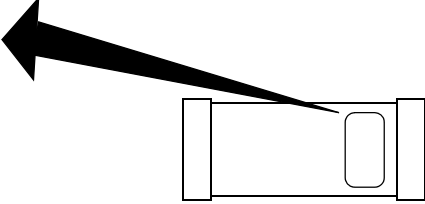

Figure 2. Data Label Location
1. Data Label (see Figure 2 on page 4) to verify such things as:
A data label is located on the side surface of the enclosure. This data label provides Model No. and other information pertinent to the particular analyzer purchased. Refer to Figure 2.
Refer to Figure 2.